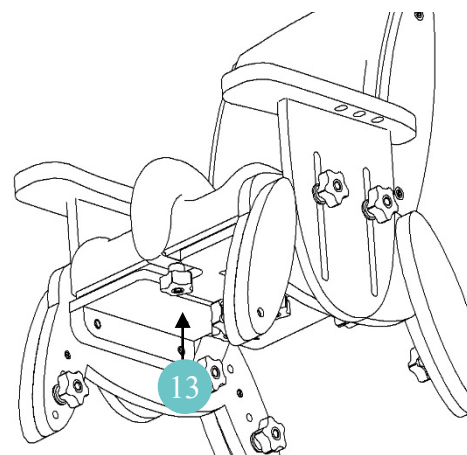

Figure 8
- The Pommel accessory slides over the front of the seat cushion and is fixed to the Juni using the supplied hand wheel (Ref. 13 of Figure 8).